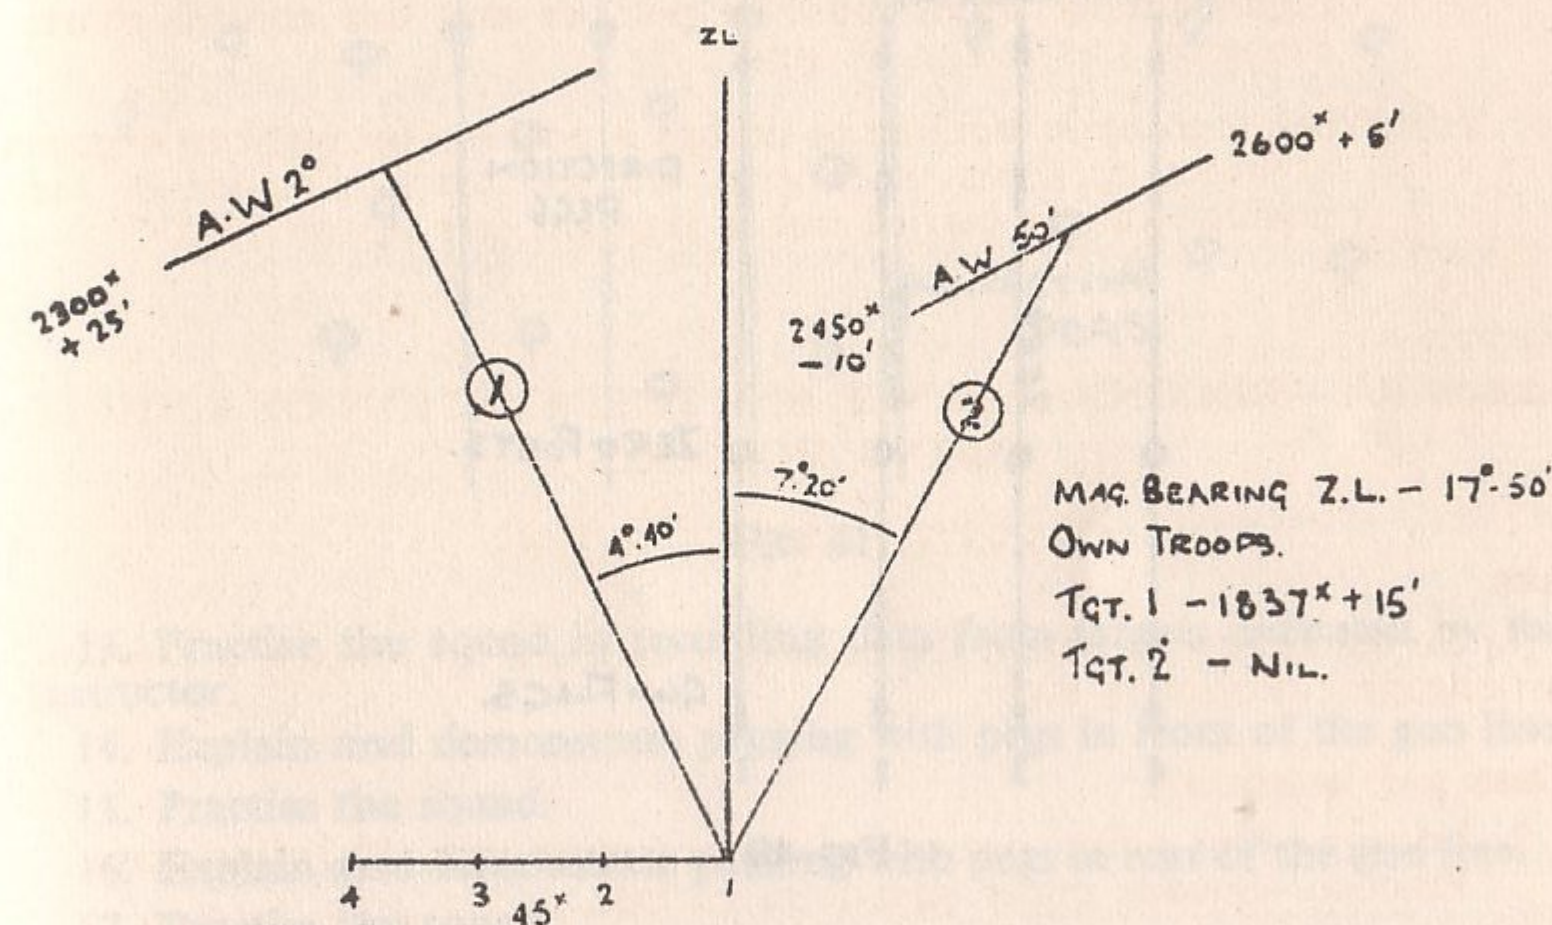

FIG 39
8. Explain the methods of recording data. An example is given in Fig 39 below.